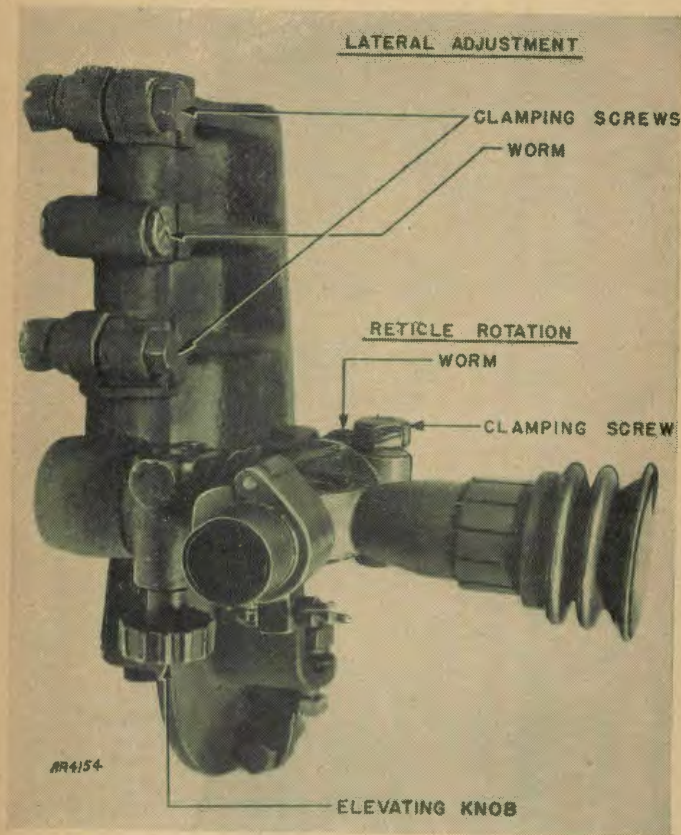

FIGURE 35.—Telescope mount M28 with telescope M24.
(b) In the azimuth telescope, raise or lower the orienting point to the horizontal line by turning the elevating knob (fig. 35) under the elbow angle.
(3) The orienting point must be centered on the horizontal line of each telescope. To do this, loosen the two clamping screws (fig. 35) on the telescope mount, turn the worm between them until the sight is adjusted accurately, and then tighten the two collar screws.
■ **35. DUTIES OF PERSONNEL.**—When using direct-fire sights, only four members of the gun crew remain on the platform. The fuze setter operator (3) and the fuze range setter (5) take spotting posts to the right and left, respectively, about 5 yards from the edge of the platform. No. 1 moves off the platform and becomes an ammunition relayer, relaying the ammunition from 6 directly to 4. Nos. 8 and 6 relay ammunition to No. 1. No. 4 holds each round in readiness at the breech for the gunner to ram home. The gunner, instead of firing immediately, waits for the signal from the gun commander to fire. The gun commander gives the signal to fire the first round only when both azimuth setter and elevation setter signify they are on target.